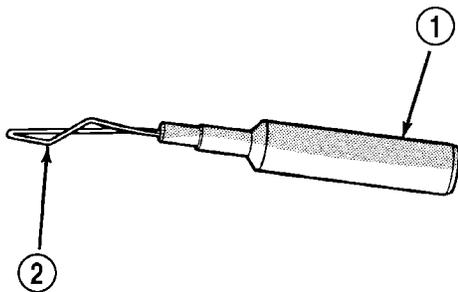

Fig. 5 PROBING TOOL
- Probing Tools - These tools are used for probing terminals in connectors (Fig. 5). Select the proper size tool from Special Tool Package 6807, and insert it into the terminal being tested. Use the other end of the tool to insert the meter probe.